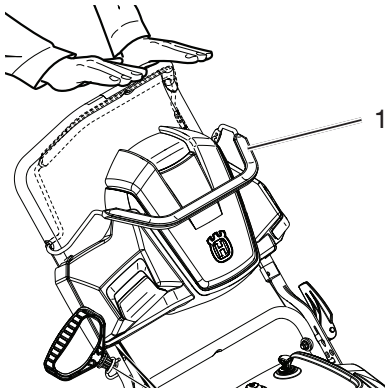

Figure 20
1. Release the control bar to remove the slack in the control cable (Figure 20).